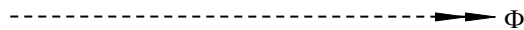

Figure 12
Step 5: Draw the phasor diagram to determine the primary current, by taking the phasor addition of the no-load current and the load component of current. See figure 12.